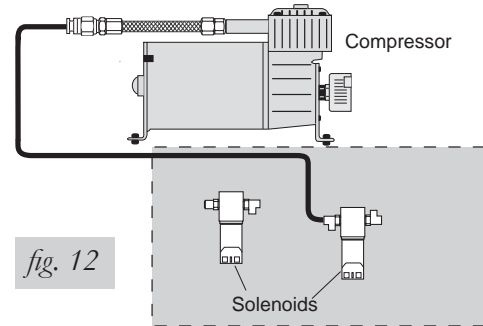

fig. 12
- Route the air line (I) to the passenger side solenoid (F) with two tee fittings installed on the solenoid (Fig. 12).